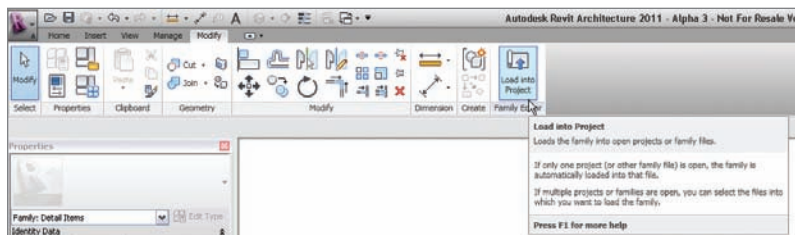

FIGURE 12.31 The Load Into Project button
20. On the Family Editor panel on the Create tab, click the Load Into Project button, as shown in Figure 12.31.